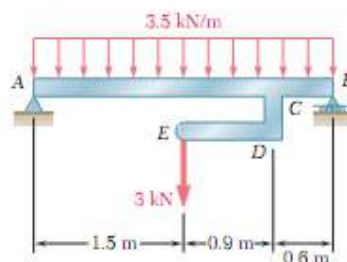

Fig. 4
- 6 Draw the shear and bending-moment diagrams for the beam and loading shown in fig. 4. 15